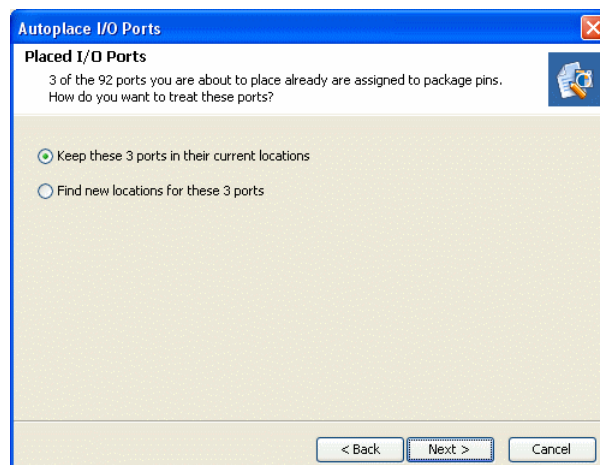

Figure 8-27: Autoplace I/O Ports Wizard
4. If you select I/O ports that have already been assigned to package pins, the dialog box opens as shown in Figure 8-27, page 262.